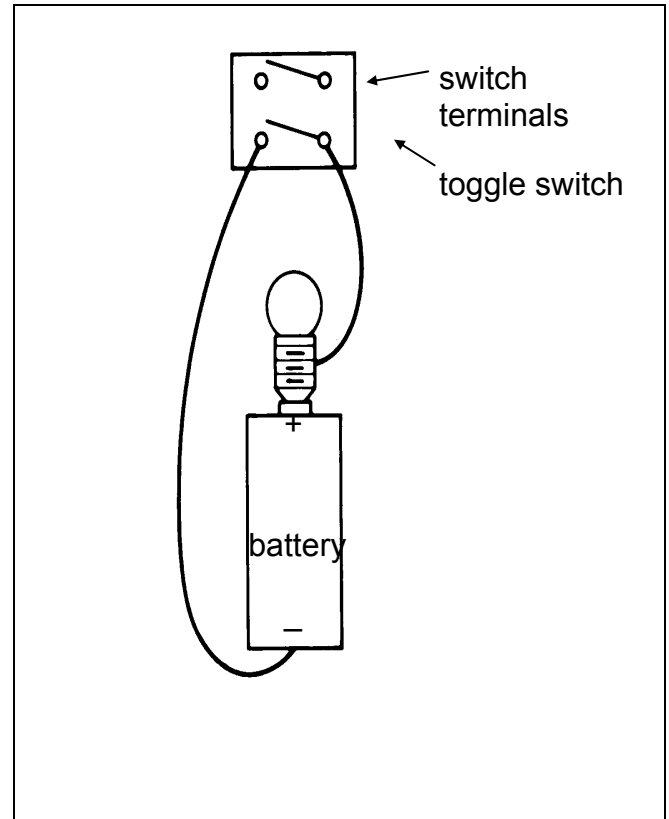

Figure 4-1. Toggle Switch Continuity Test.
3. Obtain a continuity tester or a volt-ohm meter. If neither of these instruments is available, make a continuity tester using a battery and a bulb. See Figure 4-1.